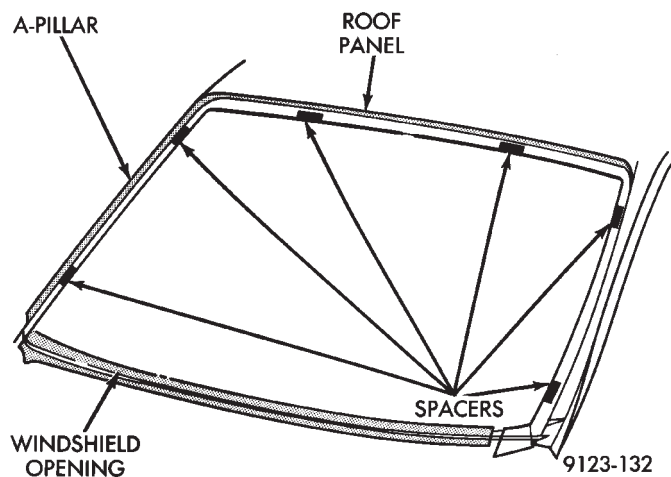
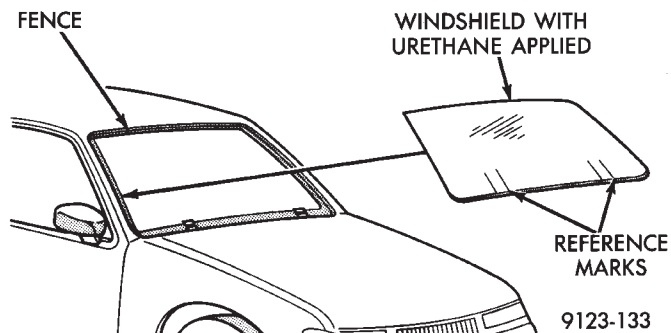

Fig. 5 Position Urethane Compression Spacers
Fig. 6 Lower Windshield Into Position
(6) Clean inside of windshield with ammonia based glass cleaner and lint-free cloth.
(7) Apply molding to perimeter of windshield.
(8) Apply Glass Prep adhesion promoter 25 mm (1 in.) wide around perimeter of windshield and wipe with clean/dry lint-free cloth until no streaks are visible.
(9) Apply Glass Primer 25 mm (1 in.) wide around perimeter of windshield. Allow at least three minutes drying time.
(10) Using a razor knife, remove as much original urethane as possible. Do not damage paint on windshield fence.
(11) Apply pinch weld primer 15 mm (.75 in.) wide around the windshield fence. Allow at least three minutes drying time.
(12) If a low viscosity urethane adhesive is used, install compression spacers on the fence around the windshield opening (Fig. 5).
(13) Apply a 10 mm (0.4 in.) bead of urethane along centerline of windshield fence.
(14) With the aid of a helper, position the windshield over the windshield opening. Align the reference marks at the bottom of the windshield to the support spacers.
(15) Slowly lower windshield glass to windshield opening fence. Guide the molding into proper position as necessary. Push windshield inward molding is flush to roof line and A-pillars (Fig. 6).
(16) Clean excess urethane from exterior with Mopar® Super Kleen or equivalent.
(17) Apply 150 mm (6 in.) lengths of 50 mm (2 in.) masking tape spaced 250 mm (10 in.) apart to hold molding in place until urethane cures.
(18) Install cowl cover and wipers.
(19) Install inside rear view mirror.
(20) After urethane has cured, remove tape strips and water test windshield to verify repair.